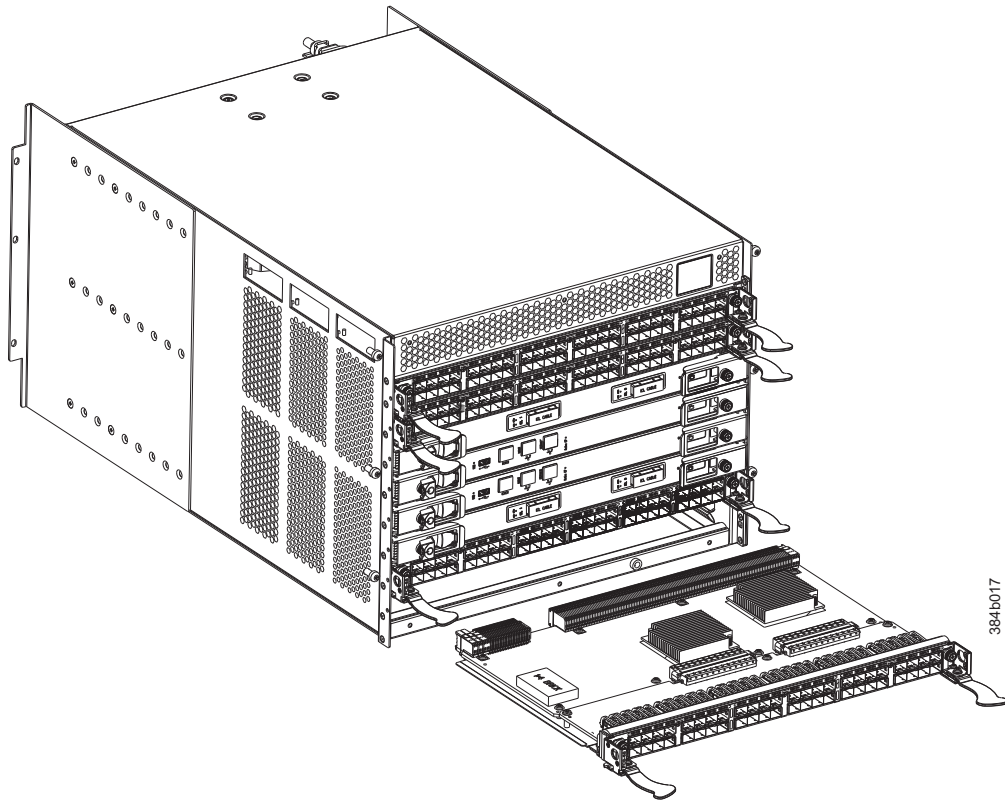

Figure 35. Port, application, and encryption blade removal and installation (48-port blade shown as example)
- **For FC8-16, FC8-32, FC8-48, and FC8-64, port blades and the FX8-24 and FCOE10-24 application blades and FS8-18 encryption blades:** Unscrew the two thumbscrews from the left and right ejectors on the blade using the Phillips screwdriver. Unscrew the left thumbscrew until it pops out. This initiates a hot-swap request. Adjust the ejectors to the open position (Figure 35 on page 68),
- **For FC8-16, FC8-32, FC8-48, and FC8-64, port blades and the FX8-24 and FCOE10-24 application blades and FS8-18 encryption blades:** Open the ejectors by pulling them toward the center of the blade face. Pull the blade out of the chassis using the ejectors (Figure 35).